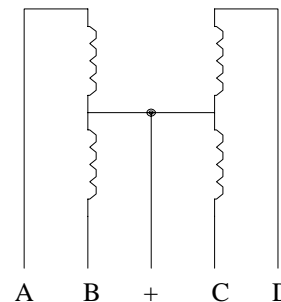
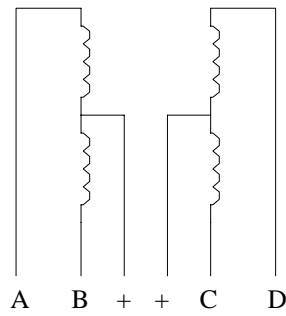

Fig 1. Five-wire stepper motor
Fig 2. Six-wire stepper motor
2. **Unipolar motors.** These have two center-tapped coils which are treated as four coils. These motors can have five, six or eight wires. Five-wire motors have the two center-taps commoned internally and brought out as one wire (Fig 1). Six-wire motors bring out each center-tap separately. The two center-taps need to be commoned externally (Fig 2). Eight-wire motors bring out both ends of each coil. The four "center-taps" are joined externally to form one wire. In each case the center-tap(s) are connected to a positive motor power supply.
Five-wire motor (Fig 1)
Six-wire motor (Fig 2)